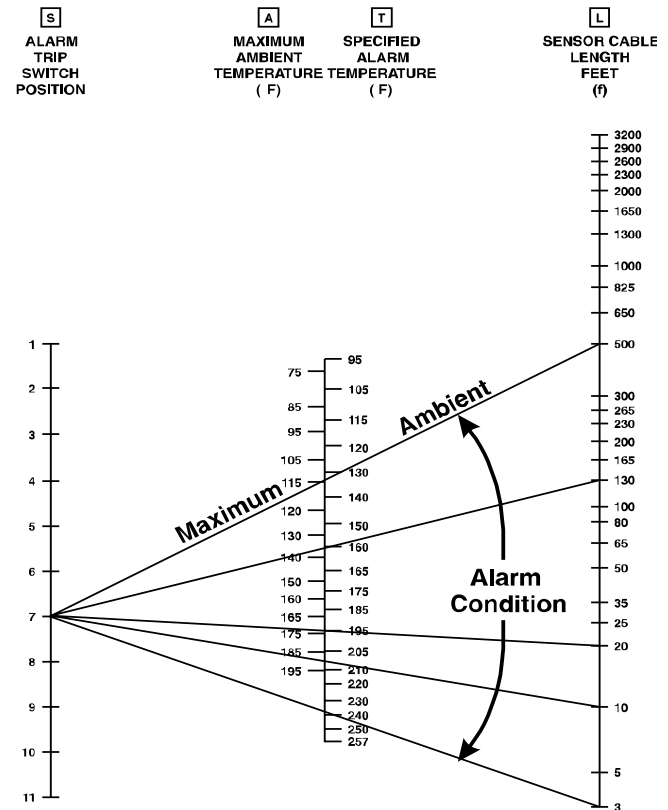

Figure 3. Example for Type "T" Cable
2. In Figure 3, a straight line is drawn from the alarm trip switch position 7 on Scale S to the 500 ft. (152 m) sensor cable length on Scale A.1
1. The AlarmLine linear heat detector in this example will operate in an ambient temperature up to about 115°F (46°C) and not generate a false alarm. See Scale A in Figure 3.
2. The AlarmLine linear heat detector in this example will generate an alarm if the temperature of the entire sensor length averages about 132°F (56°C) as shown where the line crosses Scale T in Figure 3. Higher temperatures would be needed to initiate an alarm over shorter sections of entire sensor length.
3. Alarm temperatures for shorter sections of the AlarmLine Linear Heat Detector in this example with 500 ft. (152 m) of sensor and the alarm trip switch set to position 7 may also be calculated. In Figure 3, draw straight lines from position 7 on Scale S to any desired length less than 500 ft. (152 m) on Scale L. According to the above example: